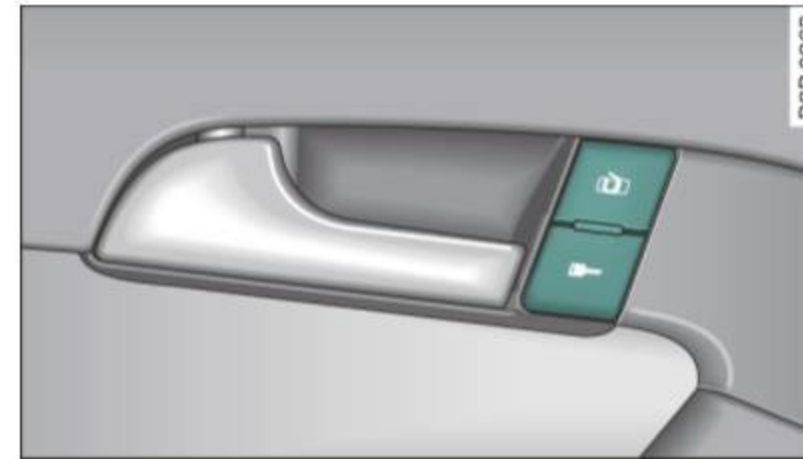

Fig. 48 Driver's door: power locking switch
- Press lower part of the power locking switch  ⇒ fig. 48 ⇒ ⚠.